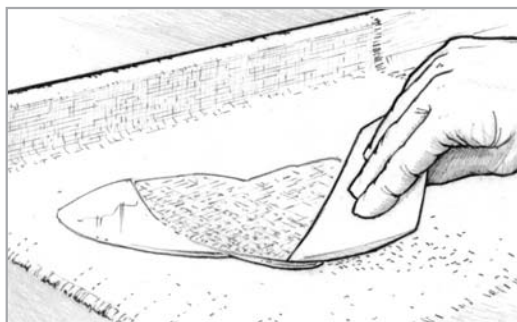

Figure 8-17 Spread the epoxy from the center of the fabric toward the edges with a plastic spreader.
5. Spread the epoxy over the cloth surface with a plastic spreader, working the epoxy gently from the pool into the dry areas (*Figure 8-17*). Use a foam roller or brush to wet out fabric on vertical surfaces. Properly wet out fabric is transparent. White areas indicate dry fabric. If you are applying the cloth over a porous surface, be sure to leave enough epoxy to be absorbed by both the cloth and the surface below it. Try to limit the amount of squeegeeing you do. The more you “work” the wet surface, the more minute air bubbles are placed in suspension in the epoxy. This is especially important if you plan to use a clear finish (see note page 70). You may use a roller or brush to apply epoxy to horizontal as well as vertical surfaces.